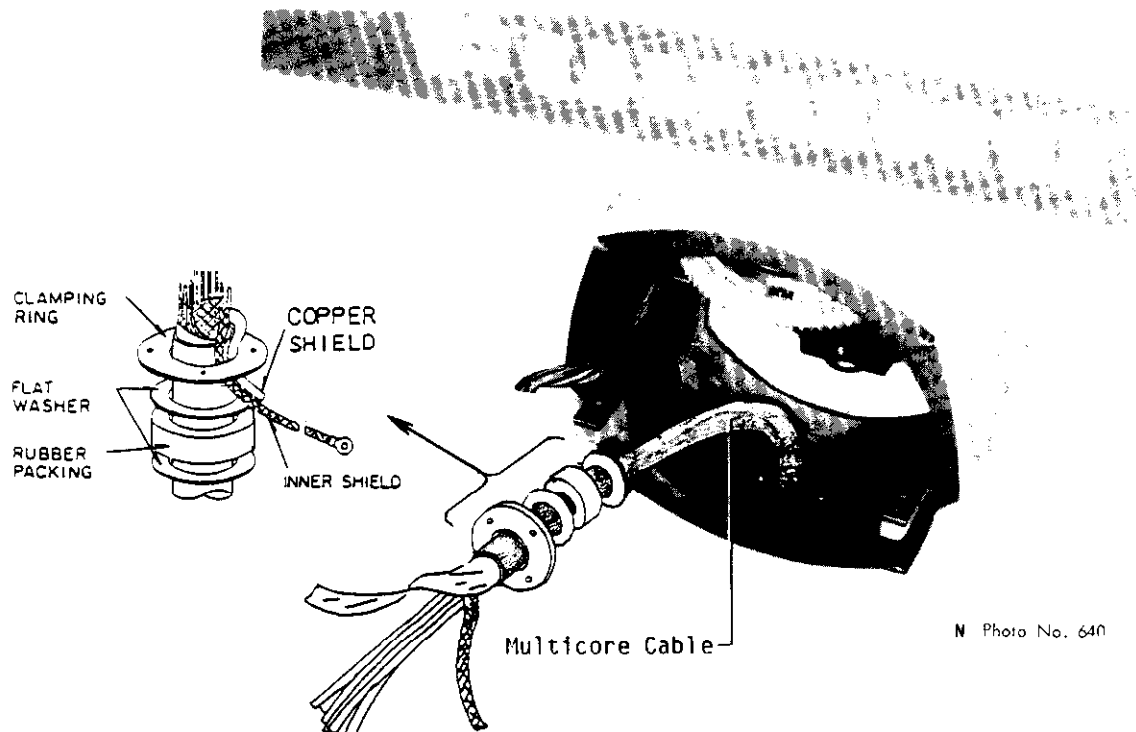

Fig.5-4 Passing Multicore Cable Thru Scanner Base
9. Pass the multicore cable through the scanner base and the cable gland (removed in step 8). See Fig.5-4.